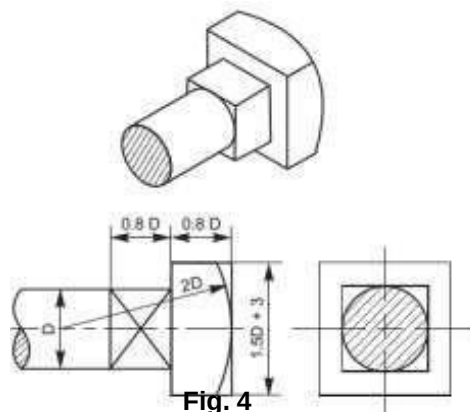

Fig. 4
2. Create a Square headed bolt as shown in Fig.4 in additive manufacturing technique using FreeCAD software. Use $D = 10$ mm, 15 mm, 20 mm.